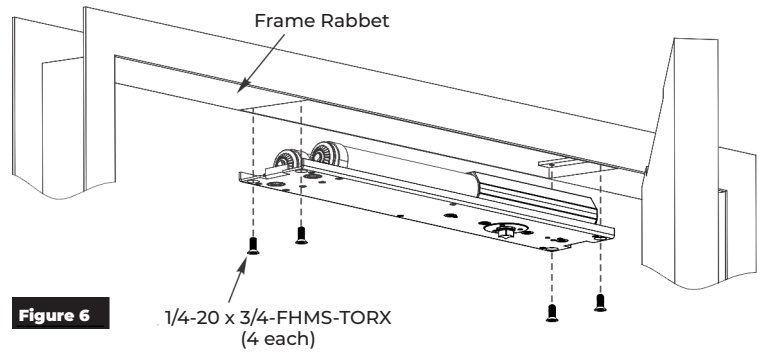

Figure 6
1. Install closer into frame using a T30 Security Torx bit with four (4) 1/4-20 x 3/4-FHMS-TORX machine screws. (Figure 6)